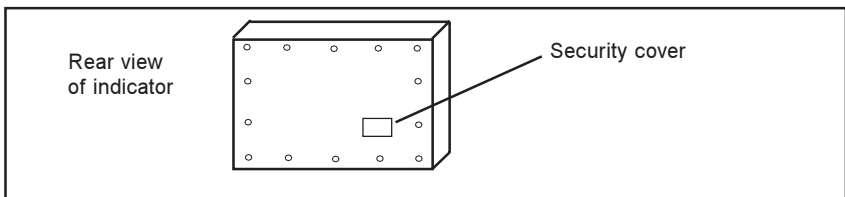

Fig. 2-2: security cover for setup switch
2. On the rear panel remove the small cover held in place by two security screws and move the switch to the opposite position (See Previous page Fig 2-2)